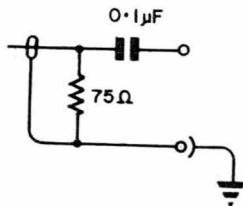
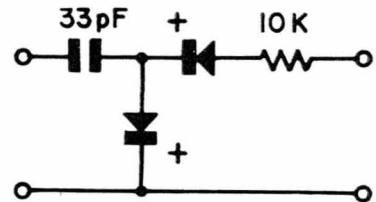

Fig. 1.
Fig. 2.
- (1) 5.5 Mc/s sweep.
- (2) Injection probe (Fig. 1).
- (3) Attenuator.
- (4) Display unit.
- (5) Detector (Fig. 2).
(a) Inject 5.5 Mc/s Sweep through probe of Fig. 1 to junction of L29 and R36 (base of TR4). Connect detector (Fig. 2) to collector of video output (TR5) and connect the display unit to the output of the detector.